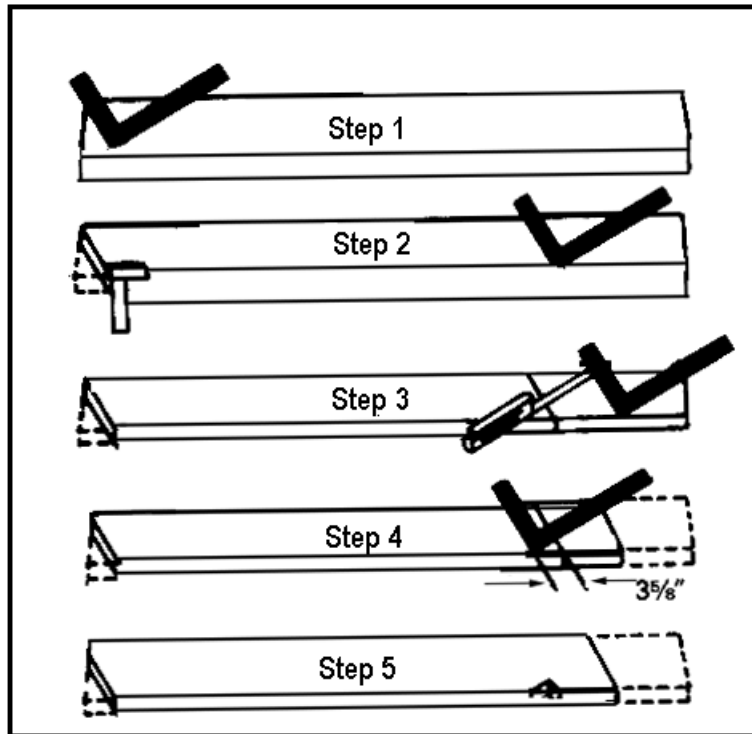

Figure 051-236-1144-4
- b. Layout the rafters. Once the rafter length is determined, the next step is the layout. Once the rafter length and pitch is determined, place the timber on the sawhorses (saw benches) with the crown or bow (if it has any) as the top side of the rafter (Figure 051-236-1144-4). Use the following steps to layout rafters:
Step 1. Determine the rafter length. Find one-half of the horizontal distance (total run) of the rafter. The amount of rise per foot will not be considered yet. (For example, if the building is 20 feet wide, half of the span will be 10 feet (Figure 051-236-1144-1.)
Step 3. Hold the square with the tongue in your left hand, the blade in your right, and the heel toward your body. Place the square as near the upper end of the rafter as possible (for example, in Figure 051-236-1144-4 (step 1) the figures 8 on the tongue and 12 on the blade are placed along the timber edge that is to be the top edge of the rafter).
Step 5. Since the length of the rafter is known to be 12 feet and 1/6 inch, measure the distance from the top of the plumb cut and mark it on the timber. Hold the square in the same manner with the 8 mark on the tongue directly over the 12-foot 1/6-inch mark. Mark along the tongue of the square to give the plumb cut for the seat (Figure 051-236-1144-4, step 2).
Step 6. Measure off, perpendicular to this mark, the length of overhang along the timber. Make a plumb-cut mark in the same way, keeping the square on the same edge of the timber (Figure 051-236-1144-4, step 3). This will be the tail cut of the rafter. Often, the tail cut is made square across the timber.
Step 7. The level cut or width of the seat is the width of the plate measured perpendicular to the plumb cut, as shown in Figure 051-236-1144-4, step 4. Using a try square, square the lines down on the sides from all level and plumb-cut lines. Now the rafter is ready to be cut.